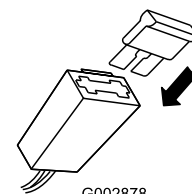

Figure 9
- Install the fuse in the fuse holder (Figure 9).